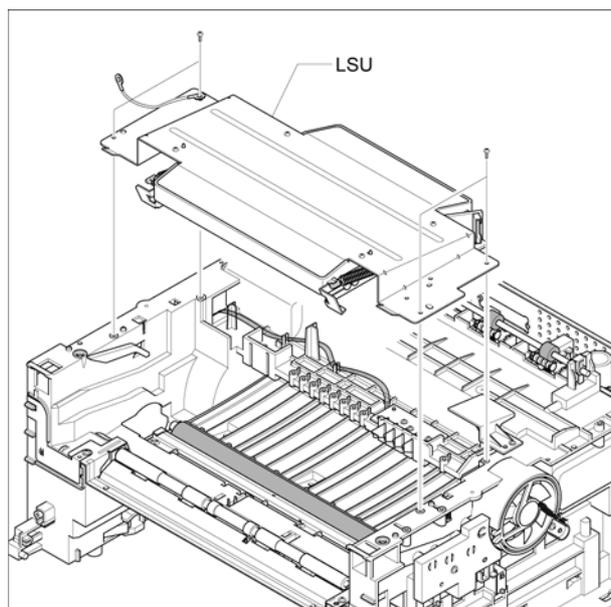

Figure 3
5. Remove 4 screws, then the LSU, Figure 3.